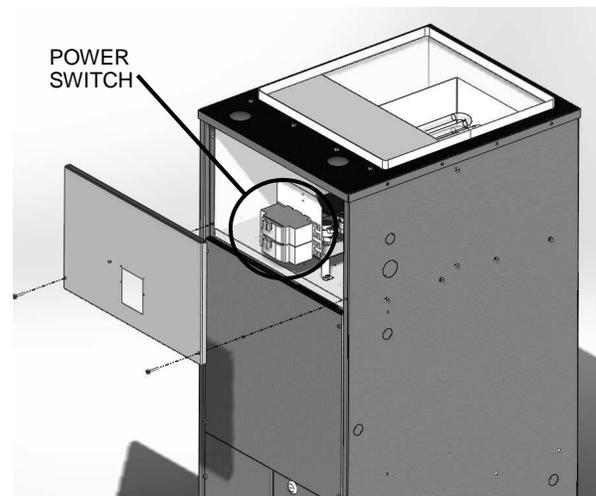

Figure 9
2. Unit With EH: into the unit through power entry (unit side) and then to the factory installed power switch inside the electrical section (see Figure 9). Note: power switch looks like a circuit breaker but **does not provide overload protection**. Power switch provided only with electric heater (field kit or factory installed). NOTE: When electric heat greater than 10kW is provided, two power supply circuits are required, as shown on the wiring diagram.